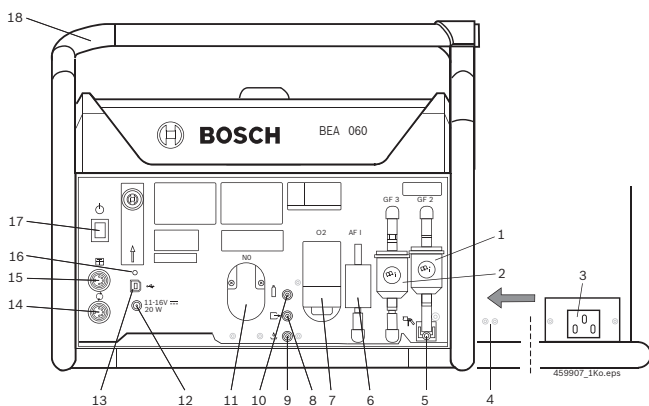

Fig. 1: BEA 060
- i The BEA 060 can also be supplied with power by way of the vehicle battery using the cigarette lighter socket connecting cable (special accessory). Refer to fig. 1, pos. 12 for connection.
1. Plug in the power cord at the BEA 060 and attach the power cord at the holes (fig. 1, pos. 4) with a cable tie to provide strain relief.
- ➔ Alternate orange and green flashing of LED (fig. 1, pos. 16).
- ➔ The LED (fig. 1, pos. 16) goes out, the BEA 060 is switched off.